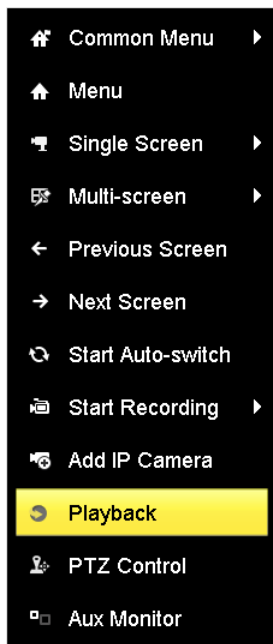

Figure 6-2 Right-click Menu under Live View
Step 1 Right-click a channel in live view mode and select Playback from the menu to enter the Playback interface, as shown in Figure 6-2.